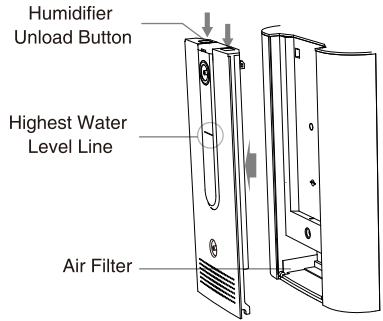

Figure 3 Removal of the Humidifier
Step 1 Press the Humidifier Unload Button (Figure 3), and remove the humidifier.
2. Clean the Humidifier (see Figure 3 for the removal of the humidifier)